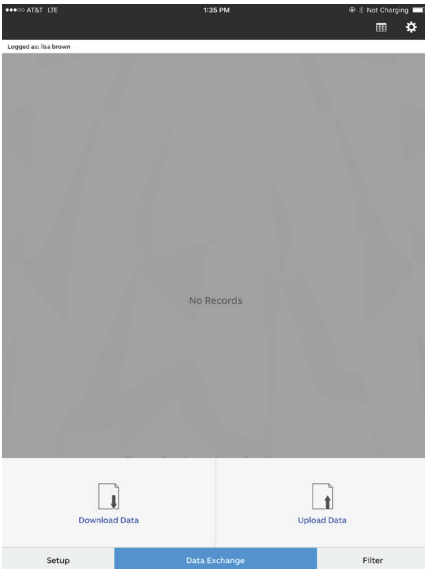

Figure 07
- When logged in as an inspector, select **Data Exchange** (Figure 07)
- Select **Download Data** (Figure 07)